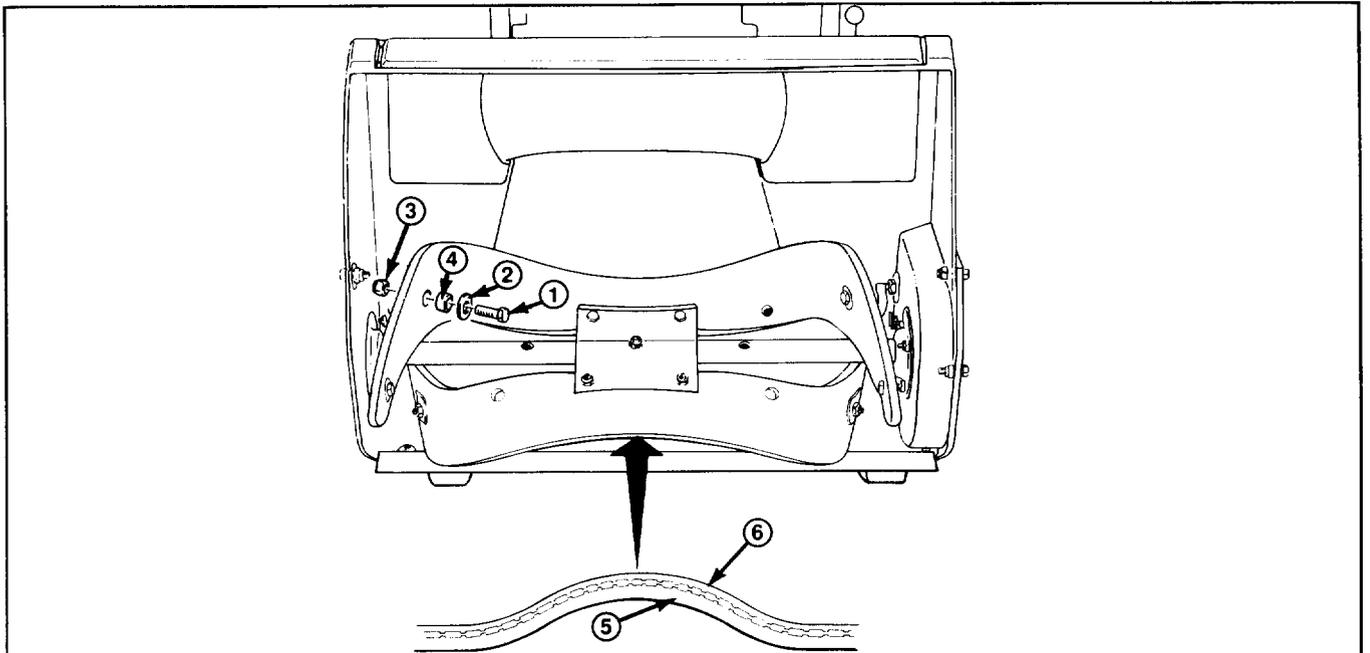

Figure 19
1. REMOVING BLADE (Fig. 19) – Remove (6) 7/16" bolts, (4) washers, and (6) locknuts securing blade to rotor shaft assembly.
2. Slide the blade out from between the steel plates and push the (6) bushings out of the blade holes (Fig. 19).
3. INSTALLING NEW BLADE – The rotor blades are made of laminated rubber. Examine the edge of a blade to see the difference in layer thicknesses (Fig. 19). Both blades must be installed with the thick layer on the **inside** of the curve. If one of the blades is installed with the thick layer on the outside of the curve and the other blade installed with the thick layer on the inside of the curve, the blades will be unbalanced, causing the snowthrower to "hop" or "bounce."
4. Press the (6) bushings into the holes in the new blade.
5. Insert the new blade between the steel plates. Secure it to the steel plates with (2) 7/16" bolts and (2) locknuts. Position bolt heads on thick (bottom) side of blade. Curve the blade, and secure it with the remaining (4) bolts, washers, and locknuts (position bolt heads and washers on thick side of blade). Tighten all bolts.